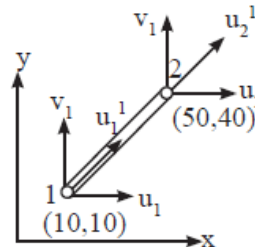

fig 2
**b** For the truss element shown in below fig 2 (x, y) co-ordinates of the element are indicated near nodes 1, 2. The element displacement dof vector is given by  $[u] = [1.5, 1.0, 2.1, 4.3]^T \times 10^{-2} \text{ mm}$  Take  $E = 300 \times 10^3 \text{ N/mm}^2$